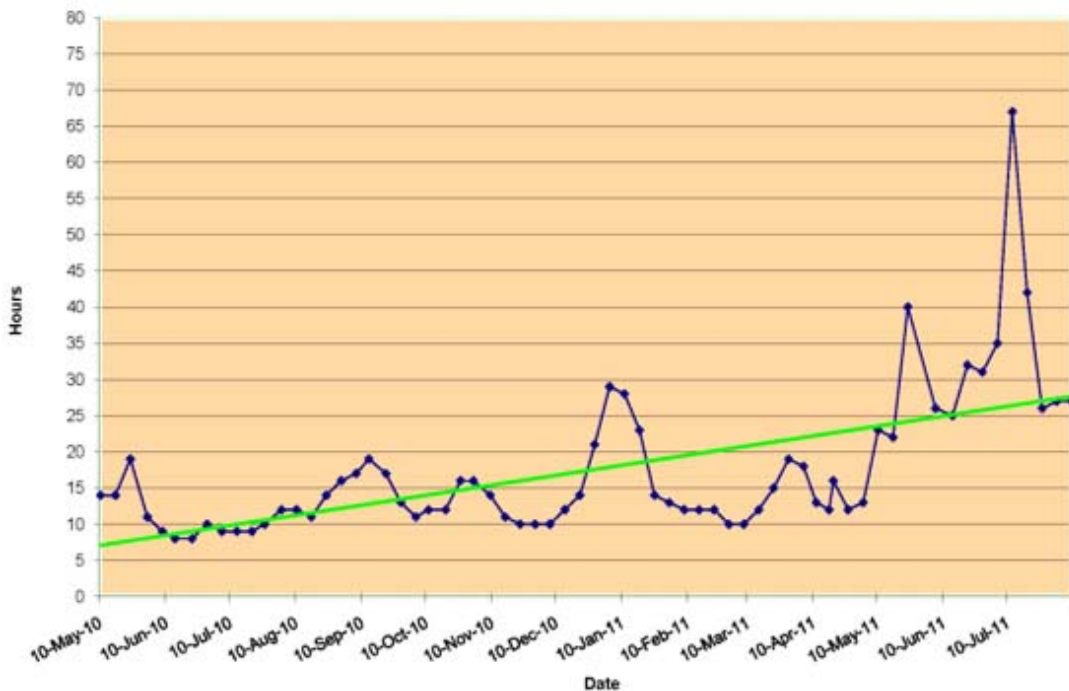

Figure 2: Electric Motor Mean Time Between Failure (MTBF)
8. Since people's memory is very short, post the results you achieve with the equipment and track to make sure they are updated daily by your production partner. One of the best items to display is Mean Time Between Failure (MTBF); measure this by equipment type or components (based on maintenance parts by type every week, as shown in Figure 2).